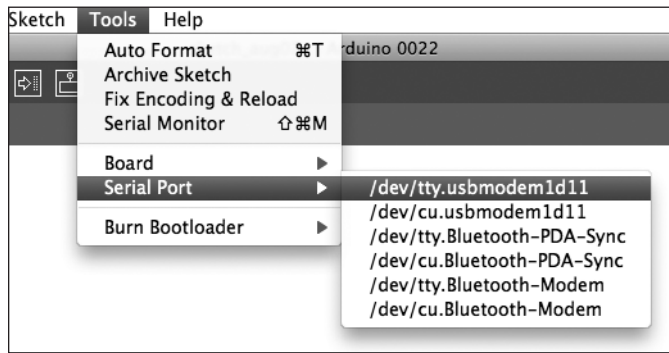

Figure 1-12: Selecting the USB port
3. You're almost there—just two more things to do before your Arduino IDE is ready to use. First, you need to tell the IDE which type of socket the Arduino is connected to. Select **Tools ▶ Serial Port** and select the `/dev/tty.usbmodem1d11` option, as shown in Figure 1-12.